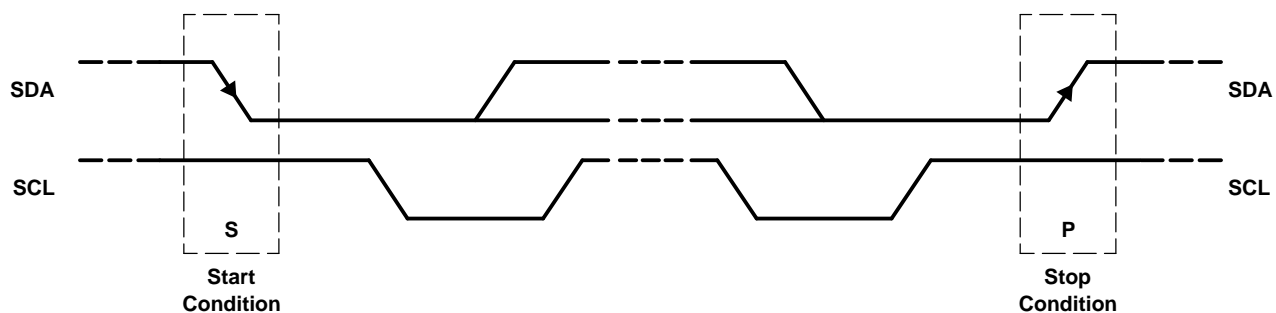

Figure 41. START and STOP Conditions
- The *master* initiates data transfer by generating a *start condition*. A *start condition* is initiated when a high-to-low transition occurs on the SDA line while SCL is high, as shown in Figure 41. All I2C-compatible devices should recognize a *start condition*.
- To signal the end of the data transfer, the master generates a *stop condition* by pulling the SDA line from low to high while the SCL line is high (see Figure 41). This releases the bus and stops the communication link with the addressed slave. All I2C-compatible devices must recognize the stop condition. On the receipt of a *stop condition*, all devices know that the bus is released, and they wait for a *start condition* followed by a matching address.